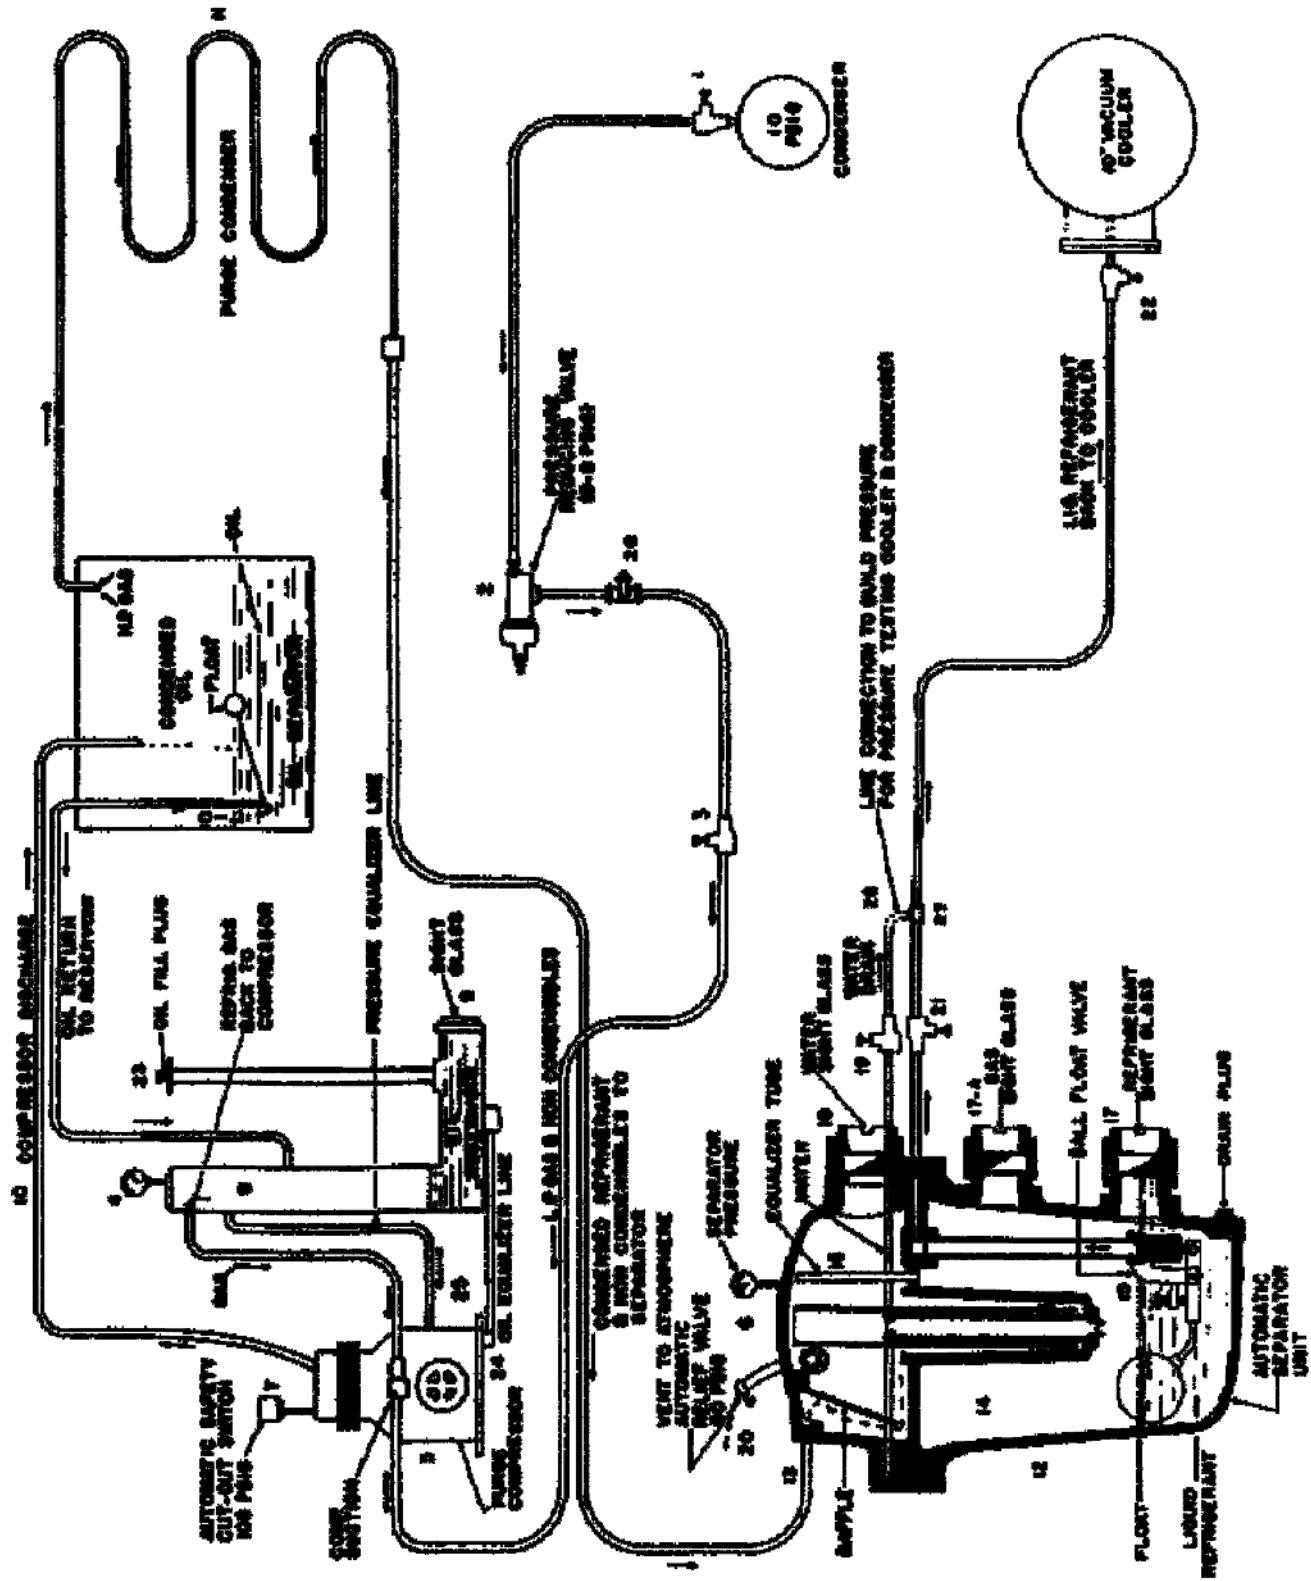

Figure 66. Purge unit schematic.
3. **Components.** The following discussion of the component items of the purge system is referenced to figure 66.
- Stop valve—on main condenser, item 1. This valve is always open except during repairs.
- Pressure-reducing valve—in suction line, item 2, to regulate the compressor suction pressure.
- Stop valve—in suction line, item 3, located in the end of the purge unit casing. This valve is to be open when the purge unit is in operation and closed at all other times.
- Pressure gauge—this gauge, item 4, indicates
- Weir and trap, item 14—located in the center of evacuation chamber. Since the water is lighter than liquid refrigerant the water is trapped above the liquid refrigerant in the upper compartment. Only refrigerant liquid can pass to the lower compartment.
- Float valve, item 15—a high-pressure float valve, opening when the liquid level rises, allows the gas pressure to force the liquid refrigerant into the economizer.
- Equalizer tube, item 16—to equalize the vapor pressure between the upper and lower compartments.
- Two sight glasses, items 17 and 17A—on lower liquid compartment, visible at the end of the casing. These glasses show refrigerant level in the separator.
- Sight glass, item 18—on upper compartment to indicate the presence of water.
- Stop valve at the end of casing, item 19—permits water to be drained from the upper compartment. The valve is marked "Water Drain" and is closed except when draining water.
- Automatic relief valve, item 20—to purge air to the atmosphere.
- Stop valve marked "Refrigerant Return" in the return liquid refrigerant line, item 21—located at the end of the casing. Open only when purge is operating.
- Stop valve, item 22—on economizer in the return refrigerant connection. Open at all times except when machine is shut down for a long period or being tested.
- Plug in oil filling connection of reservoir, item 23—pressure in the system must be balanced with the atmospheric pressure to add oil through this fitting.
- Cap, item 24—or draining oil from the compressor crankcase and oil reservoir. Oil may also be added through this connection (not shown in fig. 66) if (1) a packless refrigerant valve is installed in place of cap at the connection and (2) the purge compressor is operated in a vacuum.
- Connections between auxiliary reservoir and compressor crankcase, item 25.
- Motor and belt—not shown in figure 66.
- Plugged tee after pressure-reducing valve on line from condenser, item 26.
- Capped tee on line leading to cooler, item 27.
- Temporary connector pipe from water drain from separator to liquid refrigerant line to cooler, item 28.
4. **Purge Recovery Operation.** The purge recovery operation is automatic once the purge switch is turned on and the four valves listed below and referred to in figure 66 are opened:
9. The pressure-reducing valve (2), shown in figure 66, is adjusted to produce a suction pressure on the purge recovery unit and will not allow condensation in the suction line. If condensation does occur, the condensate will collect in the crankcase of the purge unit compressor, causing a foaming and excessive oil loss. The table in figure 67 can be used as a guide for setting the pressure-reducing valve. If the pressure-reducing valve is wide open, there will be a pressure drop of a few pounds across the valve and the suction pressure cannot be adjusted higher than a few pounds below the machine condensing pressure.
10. **Purge Unit Maintenance.** After repairs or before charging, it is necessary to remove large quantities of air from the machine. This can be done by discharging the air from the water removal valve (item 19, fig. 66). Caution must be observed in the removal of air, since there is some danger of refrigerant being discharged with the air and being wasted to atmosphere.
11. If the normal delivery of refrigerant is interrupted, it is usually caused by the stop valve (item 21, fig. 66) being closed or because the float valve is not operating. This malfunction is indicated by a liquid rise in the upper sight glass. Immediate action must be taken to correct this trouble. If the liquid is not visible in the lower glass, the float valve is failing to close properly.
13. The purge unit compressor and centrifugal compressor use the same type and grade of oil. Oil can be added to purge the compressor by closing stop valves (items 3 and 21, fig. 66), removing plug (23) in the top of the oil sight glass, and adding oil. Oil can be drained by removing the oil plug (24, fig. 66). The oil level can be checked by a showing of oil at any point in the oil sight glass while the compressor is running or shut down. The level of oil will fluctuate accordingly. The oil level should be checked daily.